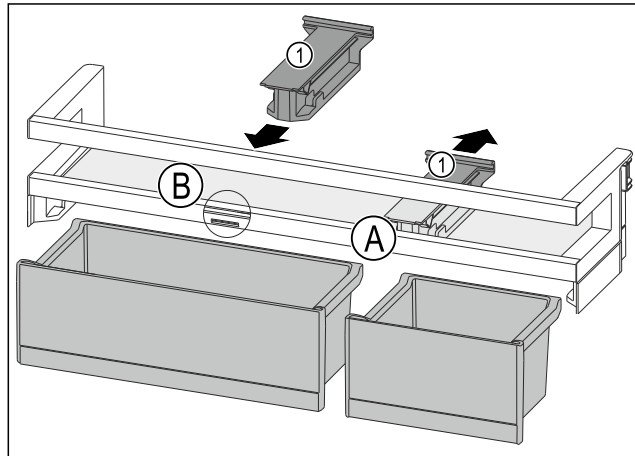

Fig. 154
- ▶ Take off the holding part Fig. 154 (1) in position Fig. 154 (A) backwards.
- ▶ Insert the holding part Fig. 154 (1) in position Fig. 154 (B).